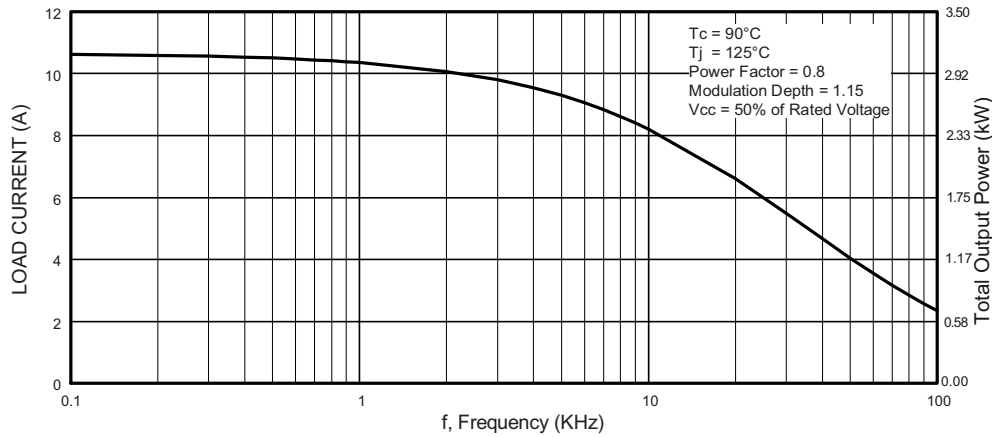

Fig. 1 - Typical Load Current vs. Frequency
Modulation depth (see fig. 1)	115 %
- Short circuit rated ultrafast: optimized for high speed (see fig. 1 for current vs. frequency curve), and short circuit rated to 10  $\mu\text{s}$  at 125  $^\circ\text{C}$ ,  $V_{GE} = 15\text{ V}$